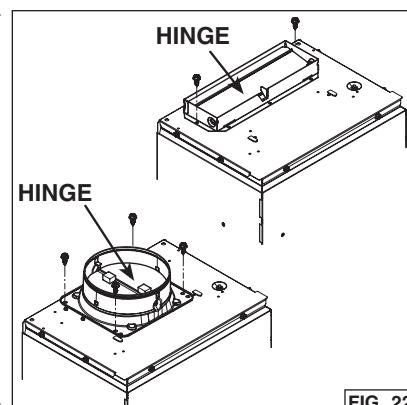

FIG. 22
10. For rectangular ducting, use 2 included no. 8-18 x 1/4" metal screws to attach the included 3 1/4" x 10" adapter damper on top of the unit, over the blower exhaust opening (FIG. 22).
NOTE: The damper hinge must be towards the front of the unit. For round ducting, use 4 included no. 8-18 x 1/4" metal screws to attach the included 6-in. round (or 8-in. round) adapter damper on top of the unit, over the blower exhaust opening (FIG. 22, 6-in. round shown).